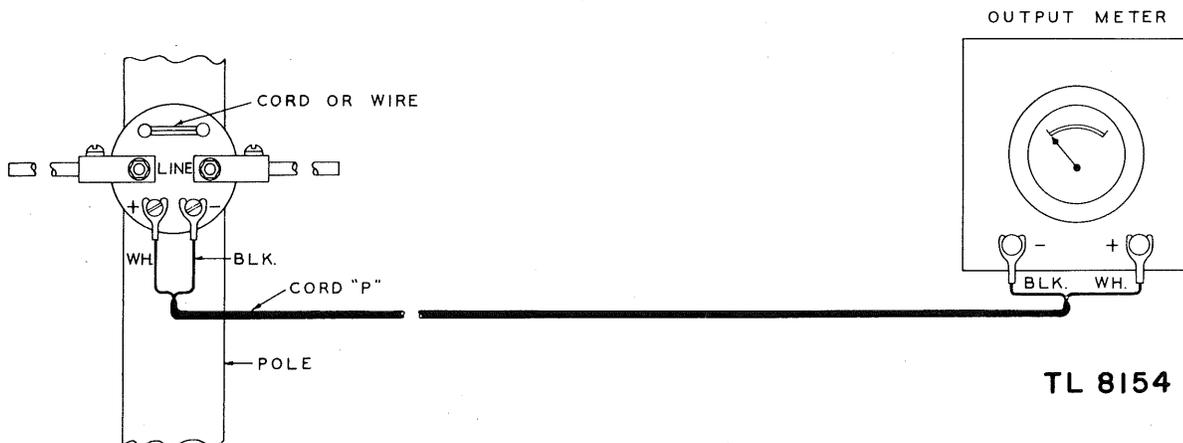

Figure 49. External-type thermocouple connections for transmitter output measurements.
c. The Weston type D thermocouple is external to the milliammeter (fig. 49). The d-c voltage generated by the thermocouple is applied to a Weston model 507 milliammeter by means of cord P (Cord CD-728). This permits the dipole and thermocouple to be erected at a distance from the transmitting
(2) The Weston type D thermocouple has facilities for mounting dipole rods which are supplied with the thermocouple (fig. 49).
b. Measurements. (1) Specific instructions for making transmitter output measurements and transmitting-antenna patterns are beyond the scope of this book. In general, however, the thermocouple is positioned at a distance from the transmitting antennas so that a suitable deflection of the meter needle is obtained. Various adjustments are then made on the transmitting system and the effect on the thermocouple meter noted. The aim is to obtain the maximum reading on the meter consistent with frequency stability of the radio-set transmitter.
(1) Wherever possible, mount the thermocouple so that it will not be affected by metal or moving objects.
(2) Be sure that it is securely mounted. A 1- or 2-inch shift in position may greatly affect the reading of the meter.
(3) When the Weston model 425 thermocouple is used, do not approach closer than necessary to take readings. The latter precaution does not apply when the Weston type D thermocouple is used as in figure 49, since cord P (Cord CD-728) carries d-c voltage to the output meter which is 30 or 40 yards away. The observer may therefore approach the output meter without affecting the thermocouple.